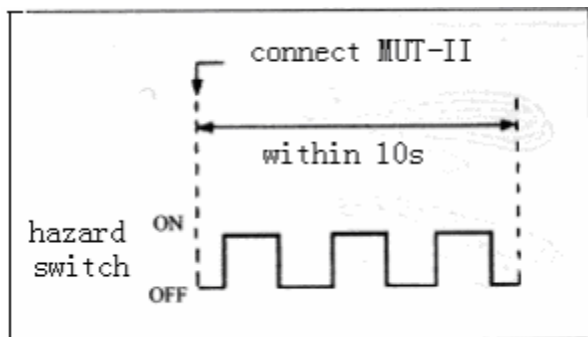

Fig. 20-131
4. After connec the MUT-II,please press hazard switch six times in ten seconds. as Fig 20-131